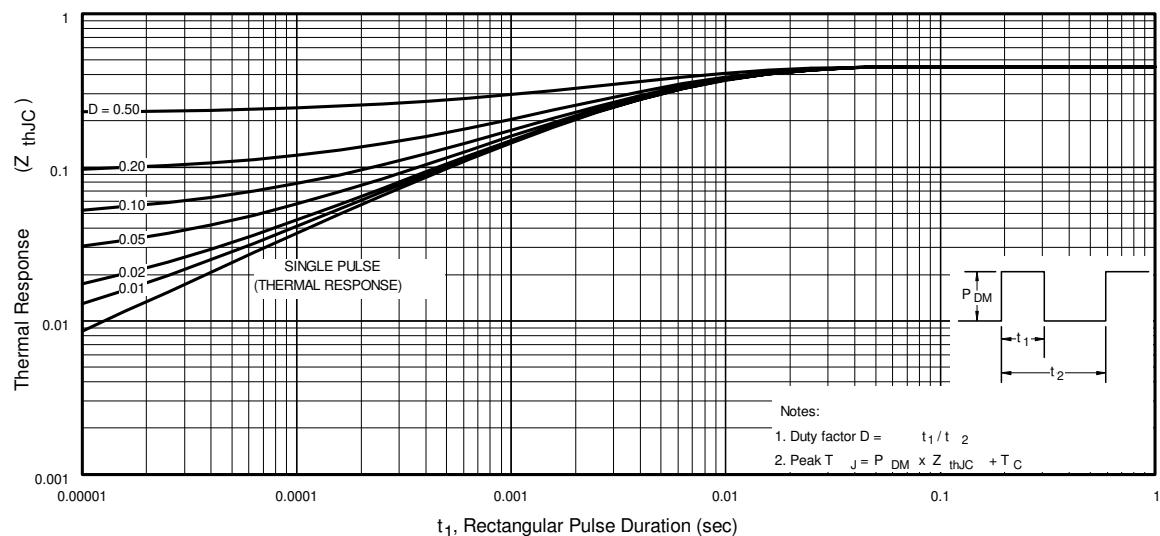

Fig 11. Maximum Effective Transient Thermal Impedance, Junction-to-Case
- $Z_{thJC}(D, t_{av})$ = Transient thermal resistance, see figure 11)
- ① Repetitive rating; pulse width limited by max. junction temperature. (See fig. 11).
- ② Starting $T_J = 25^\circ\text{C}$, $L = 0.06\text{mH}$